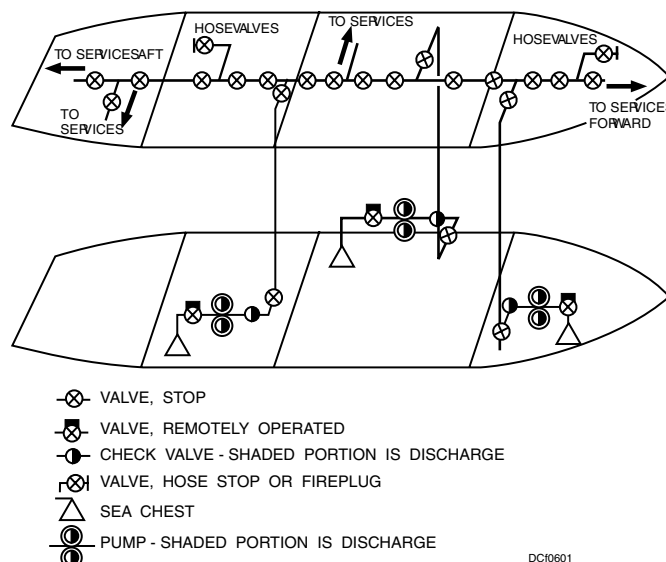

Figure 6-1. Single-main firemain system.
1. The single-main firemain system shown in figure 6-1 consists of a single piping run that extends fore and aft. This type of firemain is generally installed near the centerline of the ship, extending forward and aft as far as necessary.